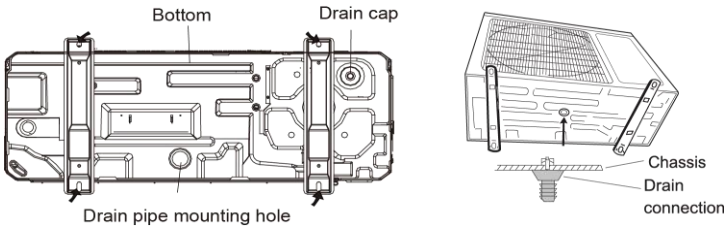

Fig. 4.9
4.2.2 Condensate Drainage of the Outdoor Unit (Only for the heat pump unit) (Fig. 4.9)